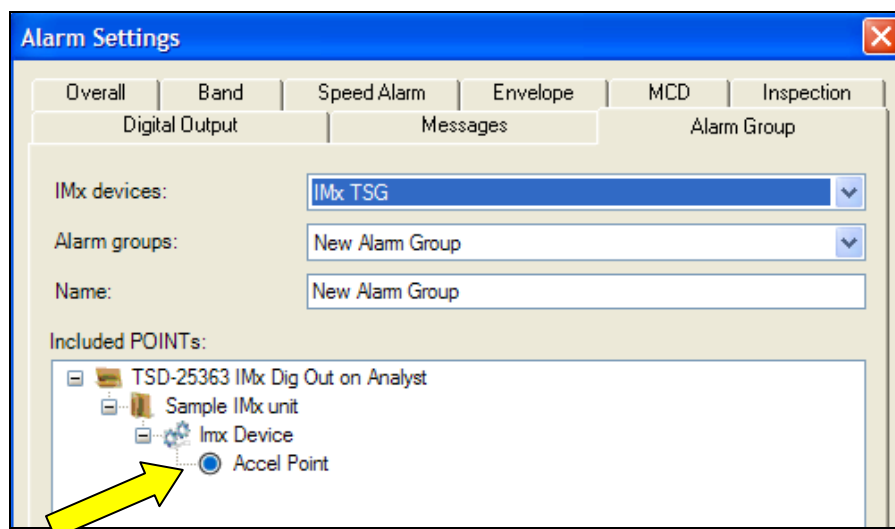

Figure 4. POINTs included in alarm group
2. If POINTs are included in this alarm group [Figure 4], they must first be removed by editing the POINT's properties on the **POINT Properties > IMx Setup** tab.